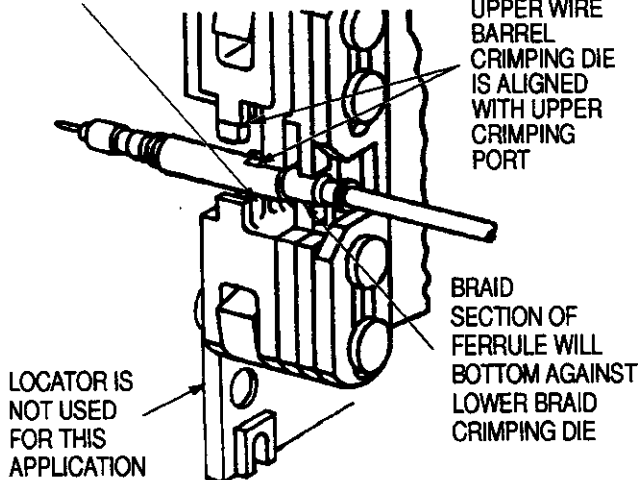

Figure 5
**A. Hand Tool Application** (Figure 5)